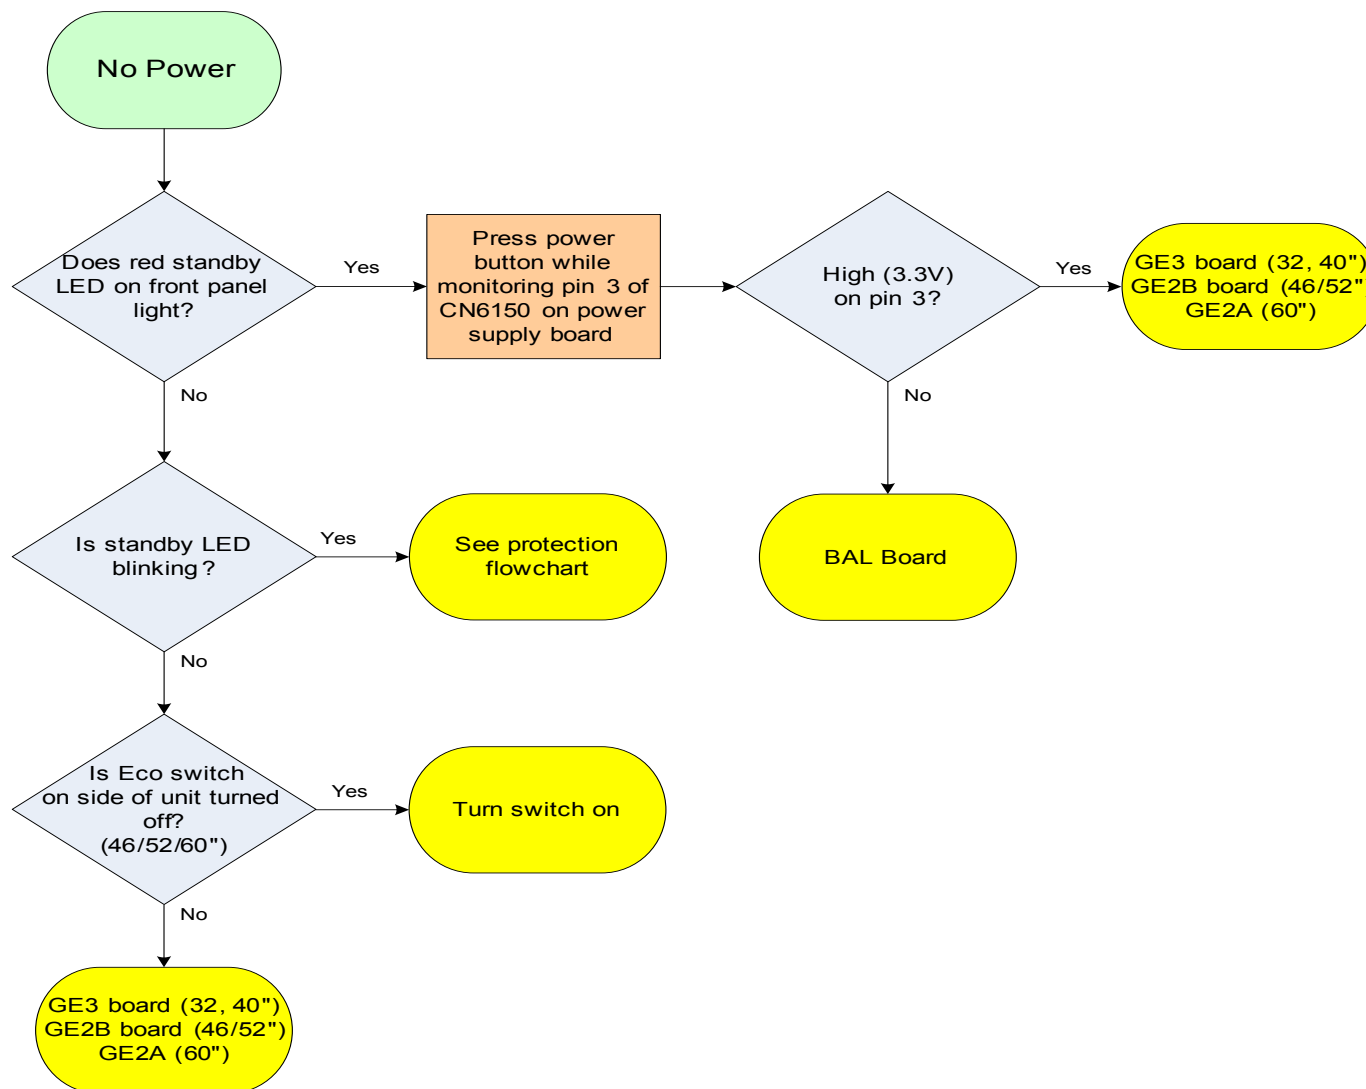

FIGURE 3-4
**Service Tip:** If the standby LED is lit but the unit will not power on, remove AC power from the unit. This can be done by unplugging the AC cord or turning off the “eco” switch. Wait about 20 seconds and re-apply AC power. You should hear a distinct click of the main relay which will engage for about 5 minutes, 20 seconds before releasing again. If the relay clicks on, the power-on command line from the CPU is functional. Use the power-on button on the right side of the unit to attempt a turn-on and eliminate a defective remote control system. The troubleshooting flowchart in Figure 3-4 will assist in isolating the power problem.